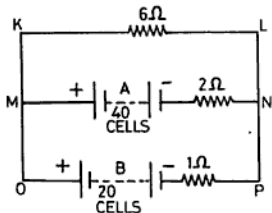

Fig. NE 9.28
- 9.28 Two batteries A and B are connected in parallel and supply to the circuit shown in Fig. NE 9.28. Battery A consists of 40 cells and battery B of 20 cells connected in series. The emf and internal resistance per cell is 2 V and 0.05  $\Omega$  respectively. Find the value and direction of current flowing in each battery and the  $6\ \Omega$  resistance.